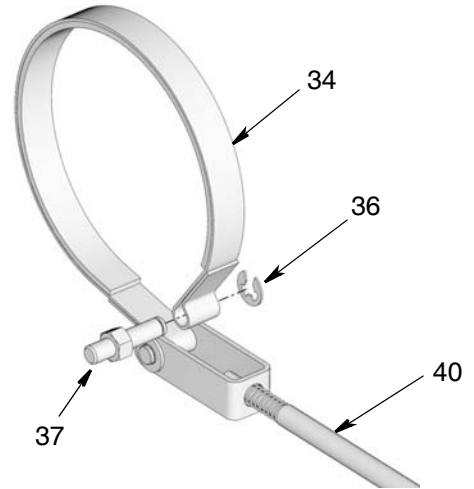

FIG. 47
- a. Install band (34) around brake hub (12) (FIG. 47).
- b. Slide anchor pin (37) through (34)the frame.